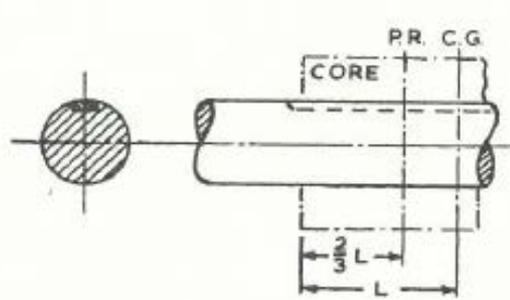

Fig. 1.
**Plain keyed shafts (Fig. 1)**